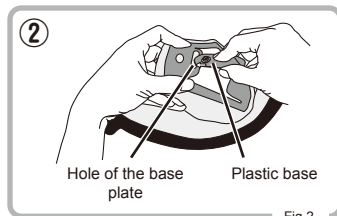

Fig.2
- ② Insert the plastic base into the hole of the base plate on the cheek pad as shown Fig.2.